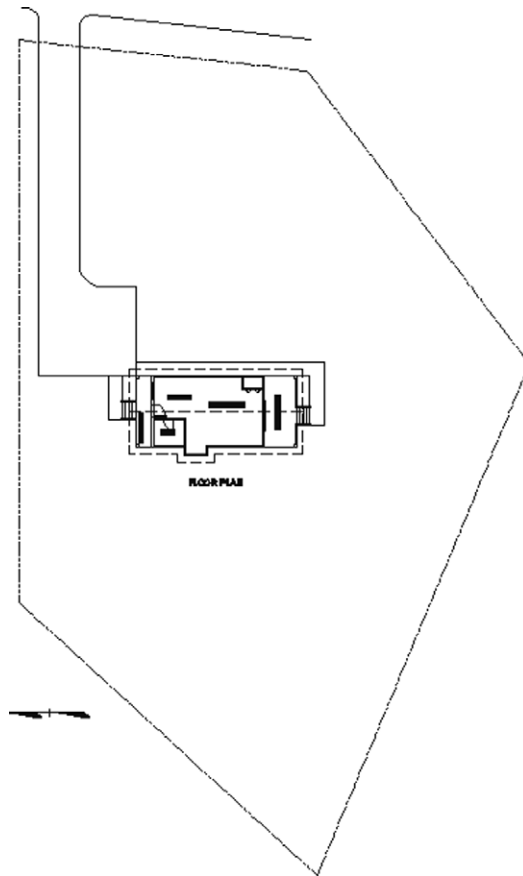
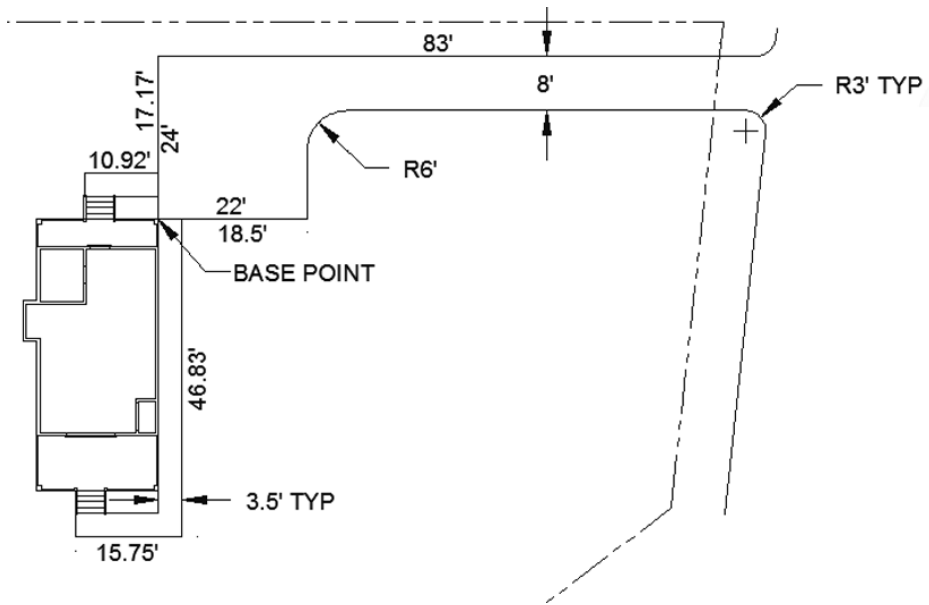
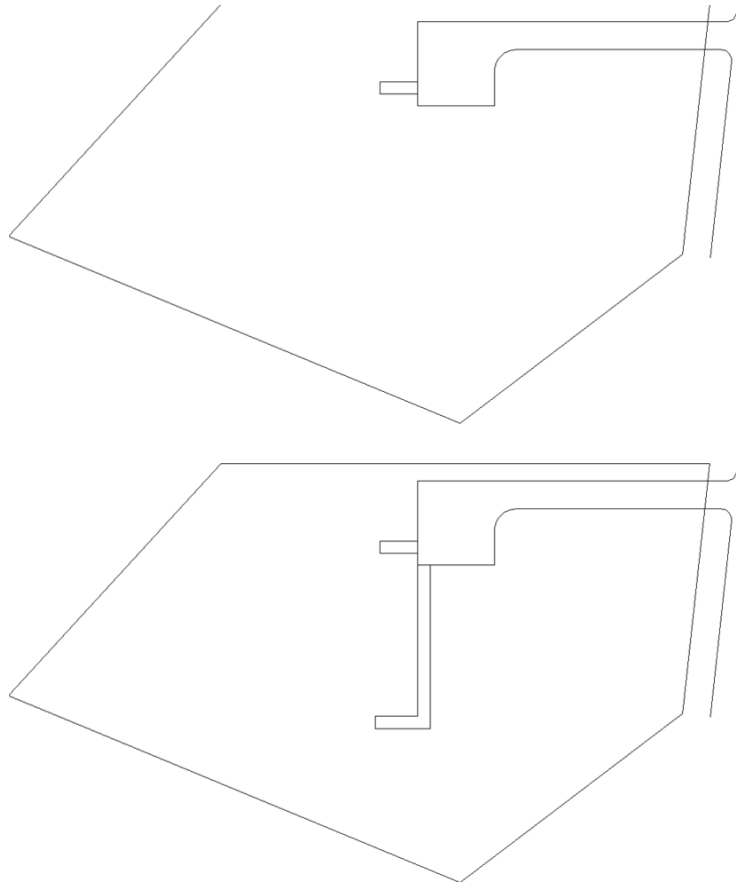

FIGURE 13.1: The cabin with the site plan as an external reference
FIGURE 13.8: The driveway and patio lined up with the cabin
FIGURE 13.10: The first sidewalk (top) and the second sidewalk (bottom)
In Figure 13.1, the lines of the site plan constitute the Xref, and the rest of the objects are part of the host drawing.
As shown previously in Figure 13.1, the end of the driveway lines up with the top-rear corner of the cabin. Extending from the driveway are sidewalks that run to the front and rear steps. This locates the cabin on the site (see Figure 13.8).
See the top of Figure 13.10. You can refer to Figure 13.8 to see the dimensions if necessary.
The bottom of Figure 13.10 shows the completed side and front sidewalk.
7. Type **BASE**↵, and click the lower-left corner of the driveway. Refer to Figure 13.8 if necessary.